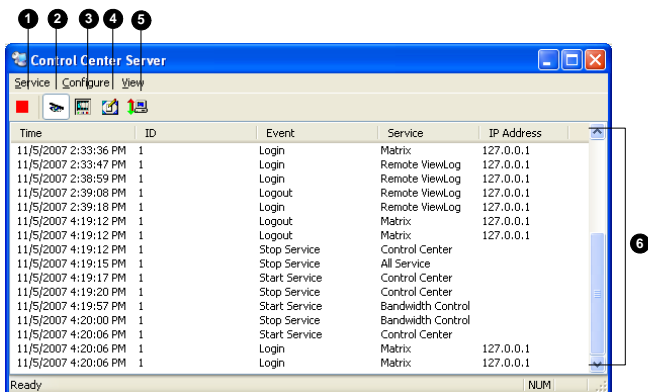

Figure 4-17
1. The client DVR must activate **Control Center Service** (No. 2, Figure 4-17) first.
1. The client DVR must activate **Remote Desktop Service** (No. 4, Figure 4-17) first.
1. The client DVR must activate **Remote ViewLog Service** (No. 3, Figure 4-17) first.
1. The client DVR must activate **Control Center Service** (No.2, Figure 4-17) first.